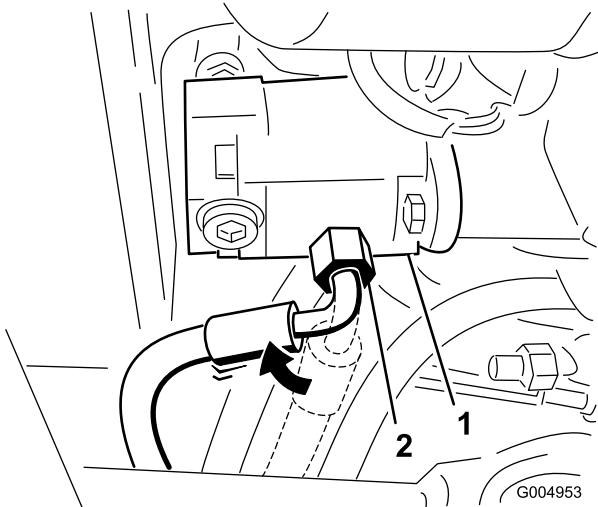

Figure 107
19. Loosen the pressure hose fitting at the pump and rotate the fitting 45 degrees toward the front of the machine (Figure 107).
Note: Figure 107 is shown as viewed from under the traction unit.